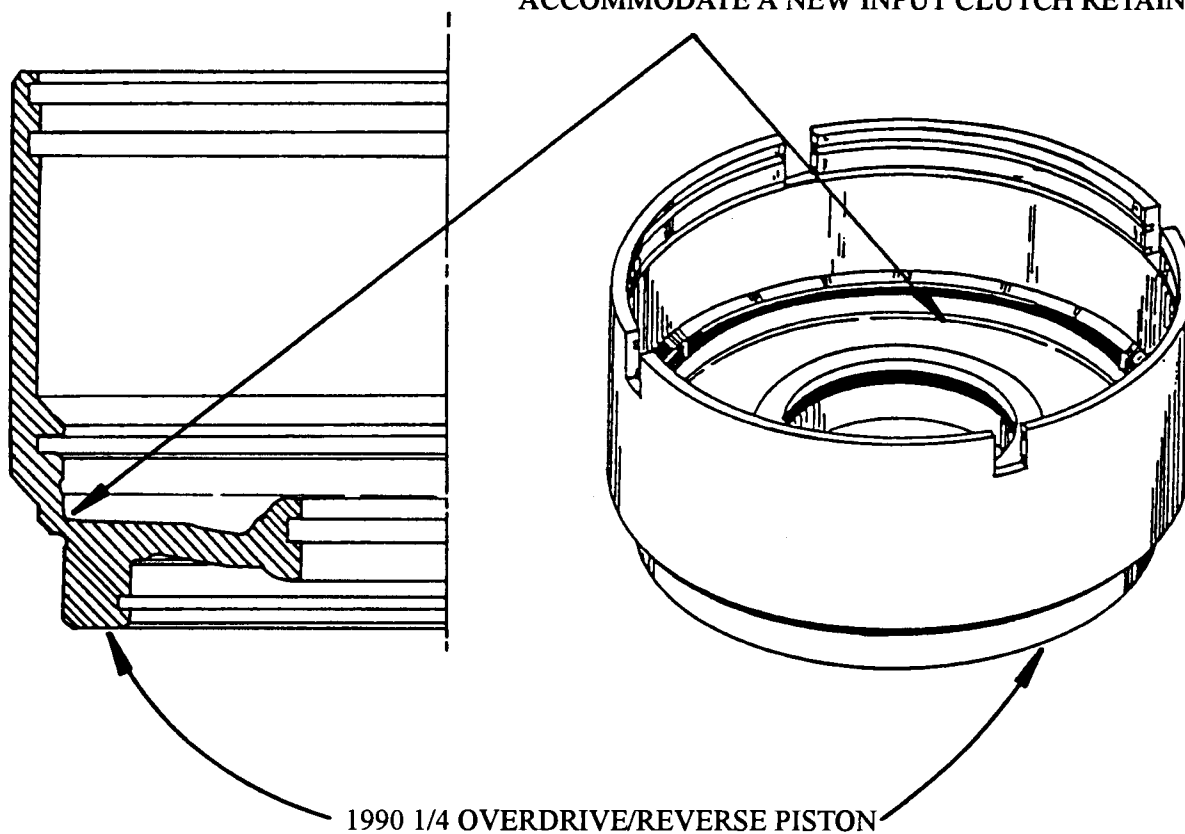

Figure 35
- (1) **OVERDRIVE/REVERSE PISTON** - The new Overdrive/Reverse Piston has four slots, for the pressure plate lugs, instead of the previous eight slots and can be identified visually (See Figure 34). The inside diameter of the new pistons bottom corner also has a larger radius to accommodate a new 1990 1/4 Input Clutch Retainer dimensional change (See Figure 35).